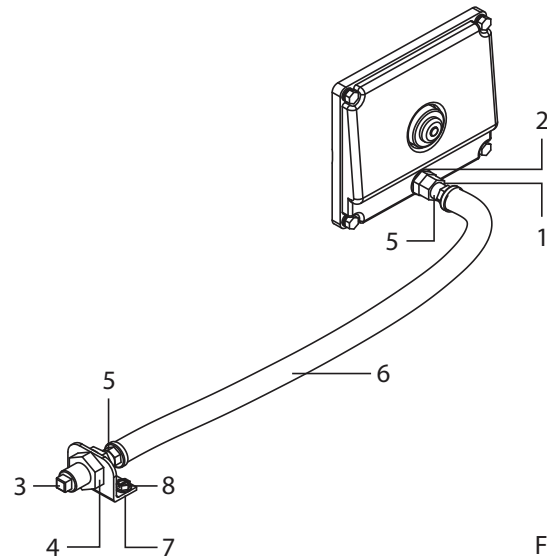

Figure 4
3. Install 1/4" BSP fitting (Figure 4, item 1) with o-ring (2) into rear cover of pump.
4. Attach hose barbs (5) to each end of 3/8" hose (6).
5. Thread one end of hose (6) into fitting (1) of rear cover.
6. Remove nut from 1/4" union fitting (4).
7. Thread in hose (6) with barb end into large end of union fitting (4).
8. Mount bracket (7) with screws (8) into desired position to maximize drainage.
9. Install hose assembly with union fitting end through mounting bracket (7) or panel (Bulkhead hole is .78" diameter).
10. Reinstall nut onto threads of union fitting (4) and tighten. **NOTE:** Centerline to centerline dimension for bracket (7) hole is 1.50", drill two - .209 diameter holes.
11. Thread in square end plug (3) into threaded end of union fitting (4).